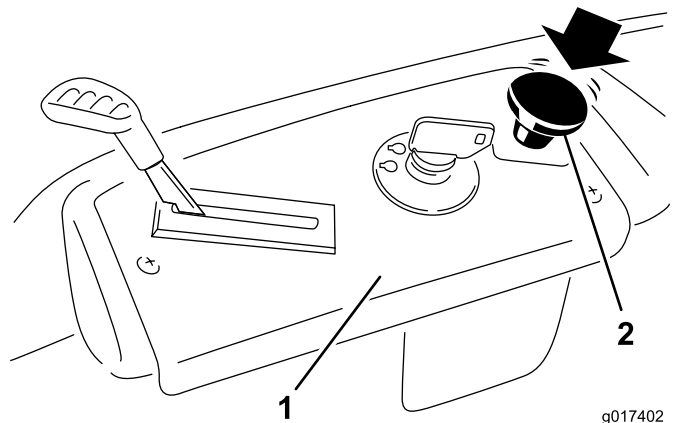

Figure 11
2. Disengage the blades by moving the blade control switch to Off (Figure 11).